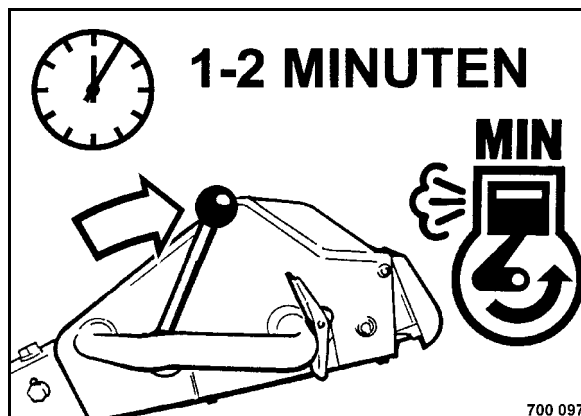

Fig. 30
- After starting take the throttle lever back to position "MIN" (Fig. 30).